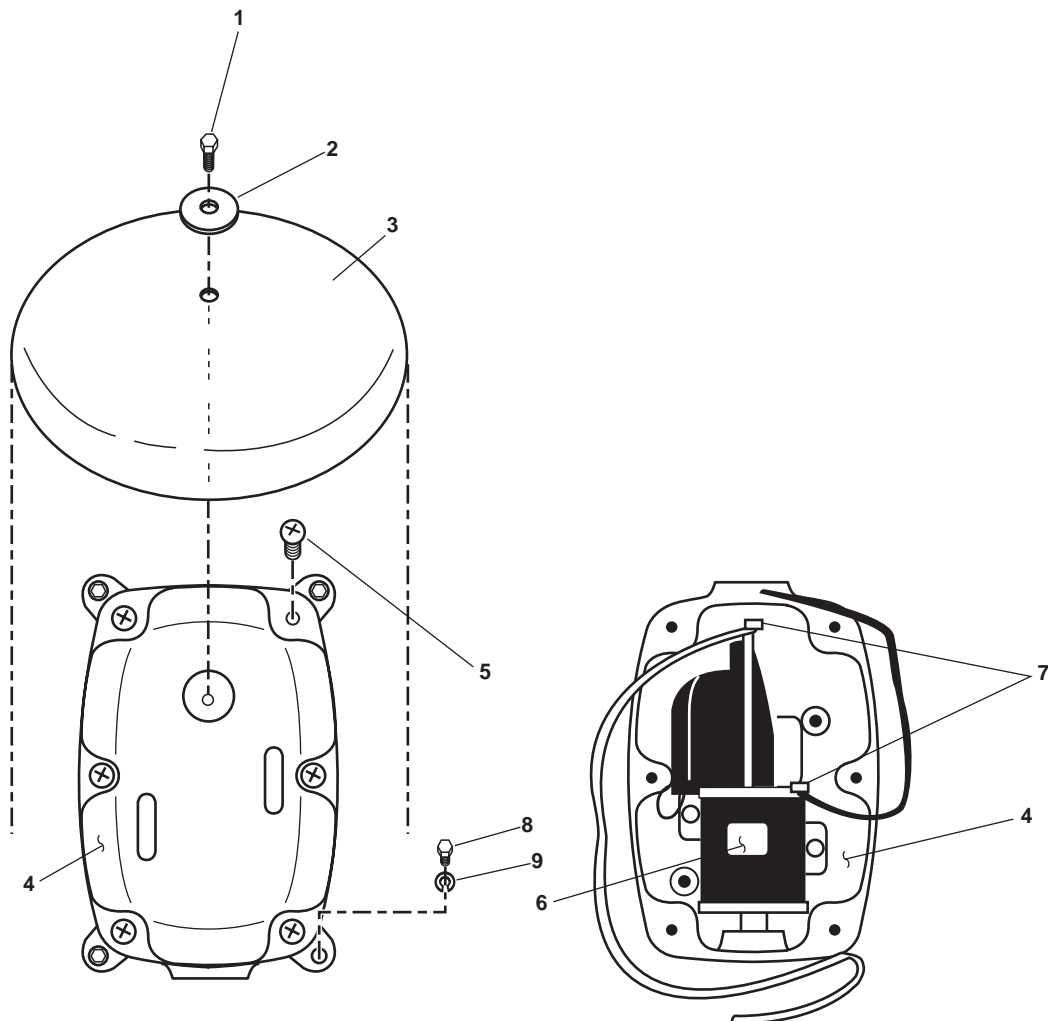

Figure 10. Alarm Bell Replacement
1. Remove the bolt (figure 10, item 1) and washer (figure 10, item 2) that secure the gong (figure 10, item 3).
2. Remove the gong (figure 10, item 3) from the bell actuator assembly cover (figure 10, item 4).
3. Remove the six screws (figure 10, item 5) that secure the bell actuator assembly cover (figure 10, item 4).
4. Remove the bell actuator assembly cover (figure 10, item 4), and turn it over to reveal the internal electrical components (figure 10, item 6).
5. Using a multimeter, check for voltage at the terminals (figure 10, item 7) to ensure that electrical circuits are deenergized. If voltage is present, ensure that the proper circuit breakers are set to OFF, locked out, and tagged out (FM 55-502). If no voltage is present, proceed with the procedure.
6. Label and remove the wiring from the terminals (figure 10, item 7), and remove the cover (figure 10, item 4).
7. Loosen and remove the four bolts (figure 10, item 8) and lockwashers (figure 10, item 9) that secure the actuator assembly, and remove it from the mounting bracket. Discard the lockwashers.
1. Align the actuator assembly to the mounting bracket, and secure it in place with the four bolts (figure 10, item 8) and four new lockwashers (figure 10, item 9).
2. Connect the wiring to the terminals (figure 10, item 7) using the labels from step 6 of Removal as a guide. Remove the labels.
3. Install the bell actuator assembly cover (figure 10, item 4) and secure it in place with the six screws (figure 10, item 5).
5. Install the gong (figure 10, item 3) on the bell actuator assembly cover (figure 10, item 4), and secure it with the bolt (figure 10, item 1) and washer (figure 10, item 2).